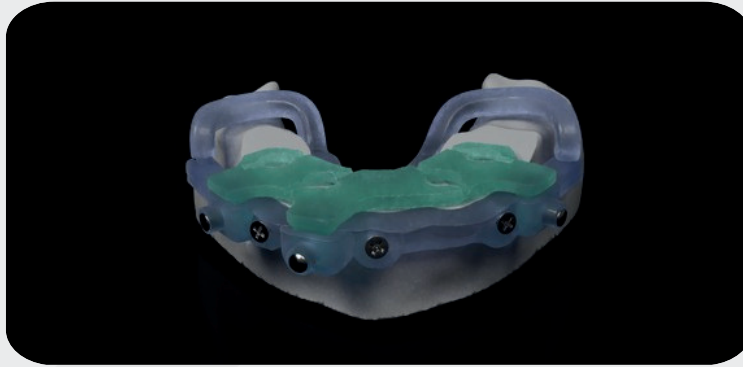

Fig. 15
Step 7: Remove the osteotomy guide, then insert the abutment orientation guide into the bone foundation guide (Fig. 15) and use the metal pins to securely hold them in place, then insert and rotate the MUAs prosthetic screw to match the markings on the abutment orientation piece.